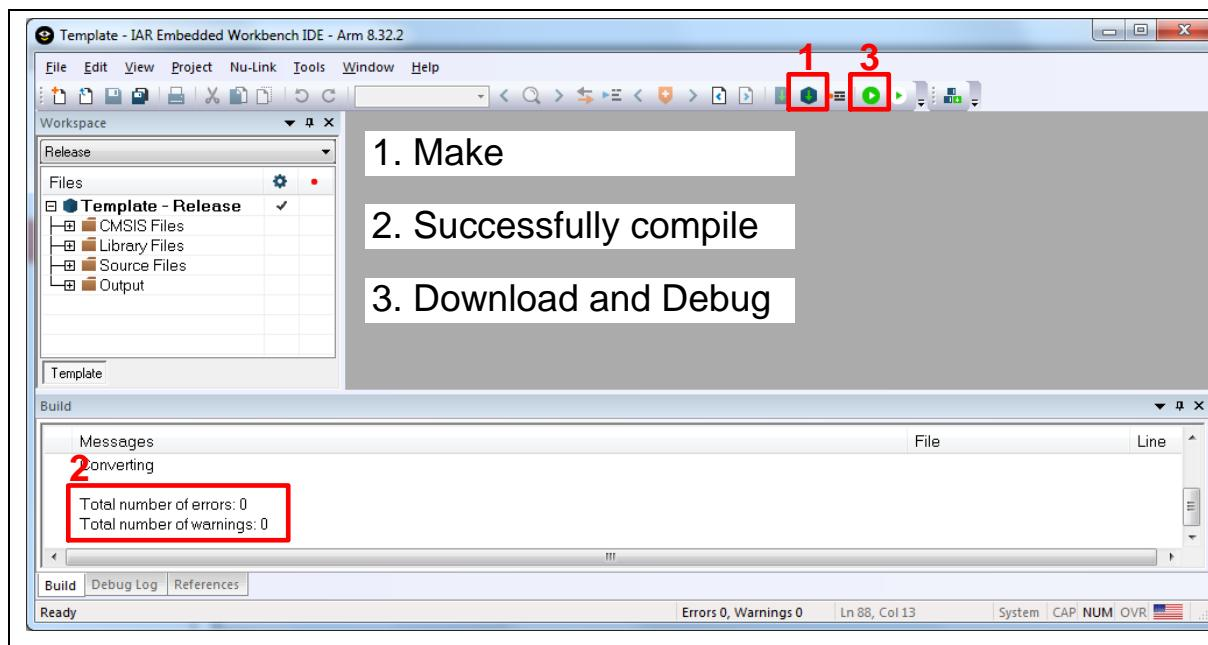

Figure 5.2-33 Compile and Download the Project
- (10) Make target file as presented in Figure 5.2-33. After successfully compile the project, download code to the flash memory and enter debug mode.